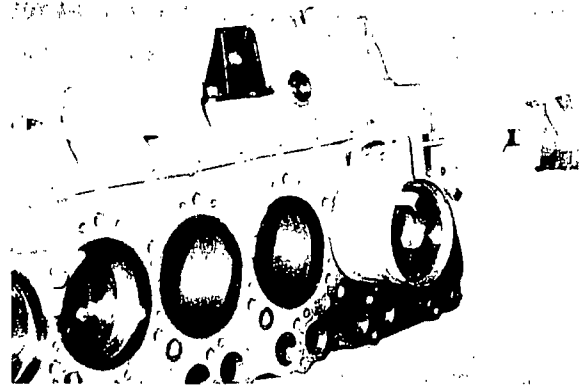

Fig. 3-4-26 Fitting piston
- 2) As shown in Fig. 3-4-26, arrange each ring, and push in piston head with a piston ring holder (special tool No. 09441-1041) and a wooden rod.
(3) Fitting connecting rod